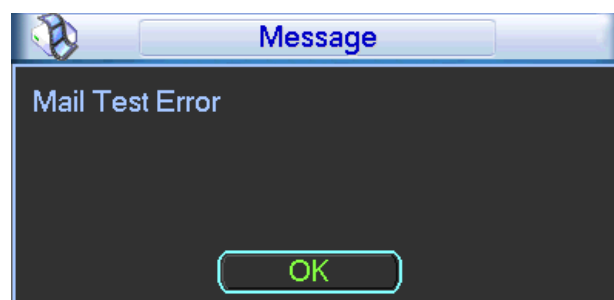

Figure 5-20
- Interval: Please check the above box to enable this function and then set the corresponding interval. System can send out the email regularly as you set here. Click the Test button, you can see the corresponding dialogue box to see the email connection is OK or not. See Figure 5-20.